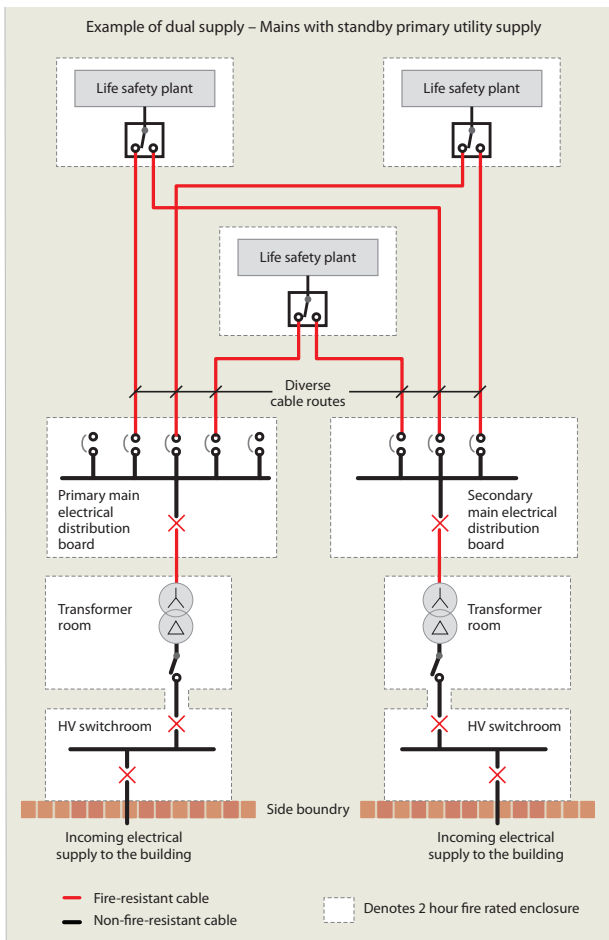

Fig 2 - Indicates a life safety arrangement utilising an alternative HV supply
provision of a separate supply from an independent substation, remote from the primary supply; as indicated in Fig. 2. Where such a supply is provided it is normally at high voltage (HV). BS 9999 recognises this arrangement is usually quite difficult to obtain unless strict measures are in place to prevent the supply network becoming inappropriately interconnected through the customer's installation.